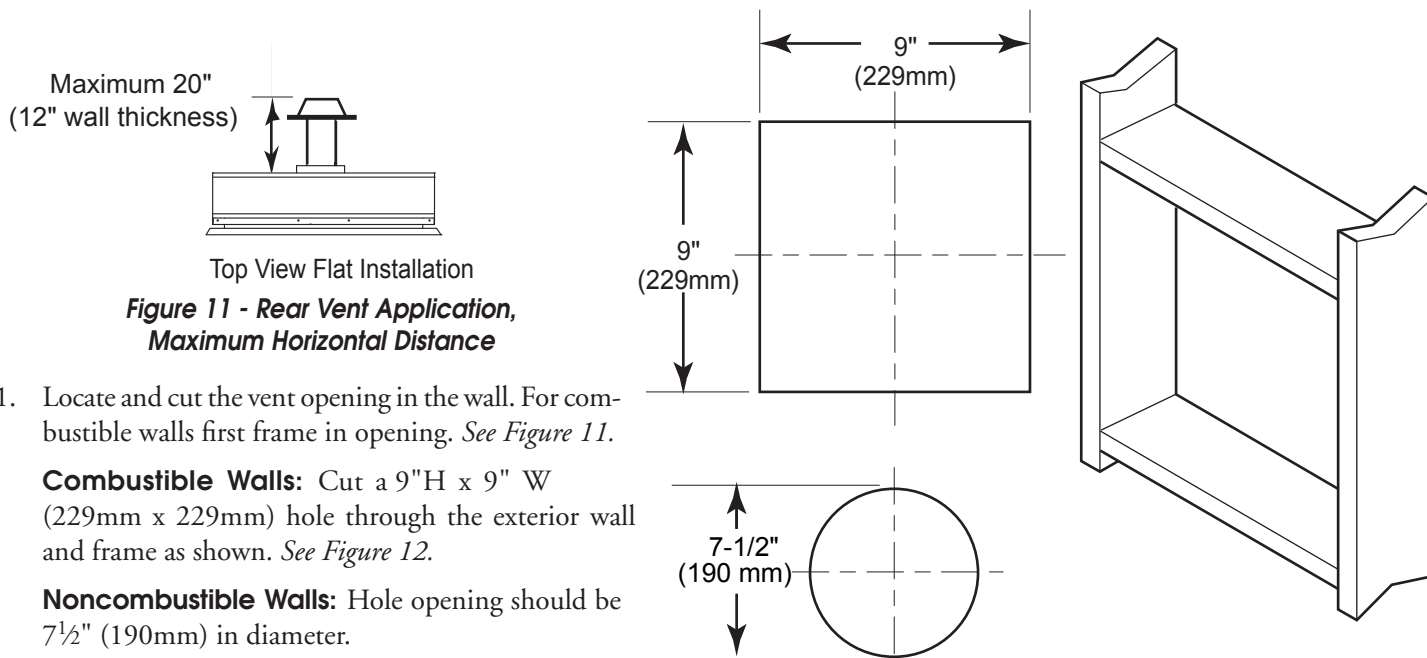

Figure 11 - Rear Vent Application, Maximum Horizontal Distance
- The maximum horizontal distance between the rear of the appliance and the outside of termination is 20" (508 mm). See *Figure 11*.
1. Locate and cut the vent opening in the wall. For combustible walls first frame in opening. See *Figure 11*.
3. Attach vent pipe assembly to the fireplace. Set fireplace in front of its permanent location to insure minimum clearances. Mark the wall for a 9"H x 9"W (229mm x 229mm) rectangle hole (for noncombustible material such as masonry block or concrete, a 7½" [190mm] diameter hole is acceptable). See *Figure 11*. The center of the hole should line up with the center line of the horizontal rigid vent pipe end. Be sure to allow for minimum rise. Cut a 9"x9" (229mm x 229mm) rectangle hole through combustible exterior wall (7½" [190mm] diameter hole if noncombustible). Frame as necessary. Allow ¼" minimum rise per foot. See *Figure 12*.